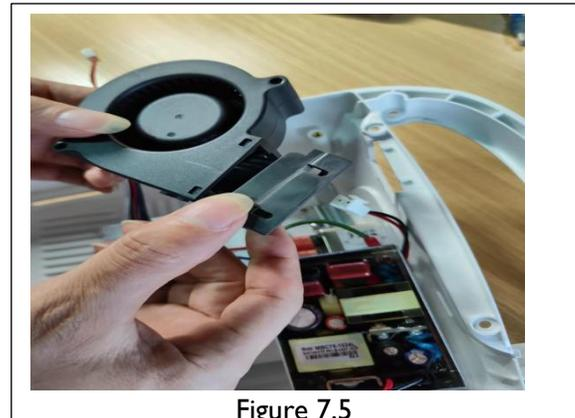

Figure 7.5
3. Remove the Fan Baffle from the Fan Housing. **See Figure 7.5.**